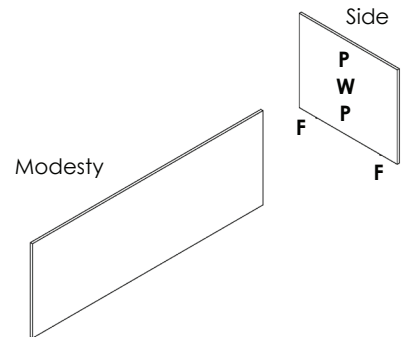

Figure 1: Adding left side to modesty
Step 2: Attach the left-side laminate piece to the modesty laminate piece (figure 1).